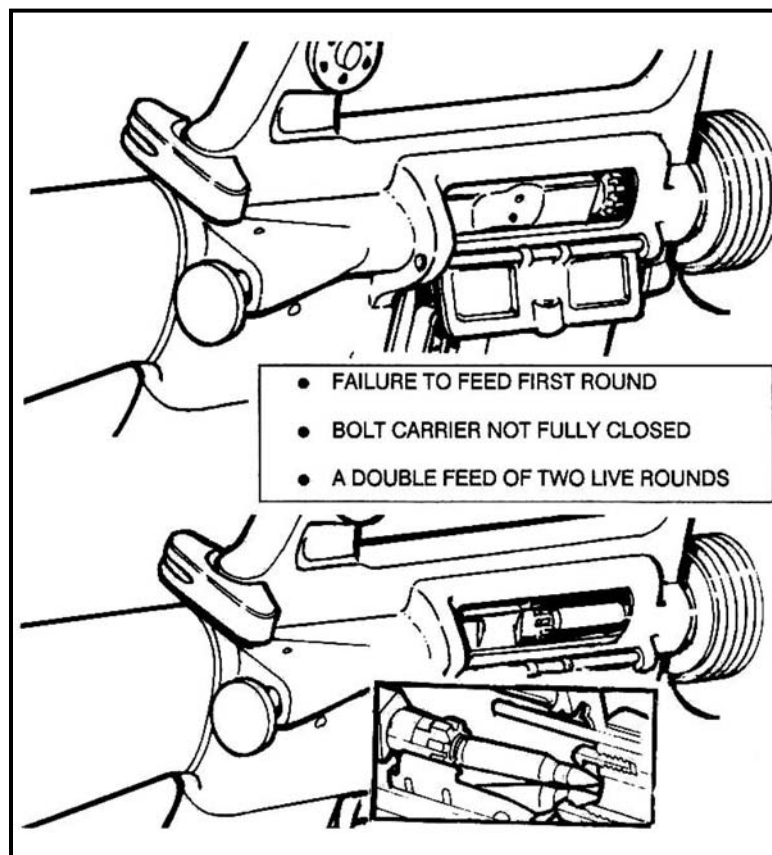

Figure 3-1. Failure to feed, chamber, or lock.
a. **Failure to Feed, Chamber, or Lock.** A malfunction can occur when loading the rifle or during the cycle of operation. Once the magazine has been loaded into the rifle, the forward movement of the bolt carrier group could lack enough force (generated by the expansion of the action spring) to feed, chamber, or lock the bolt (Figure 3-1).